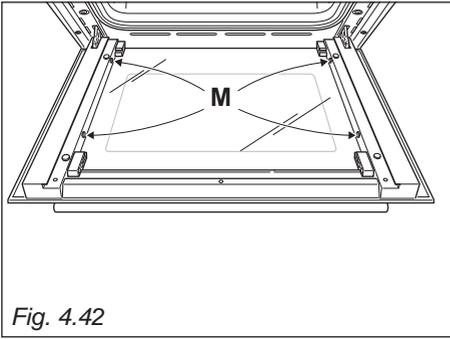

Fig. 4.42
- Check that the four rubber pads are in place ("M" in fig. 4.42).